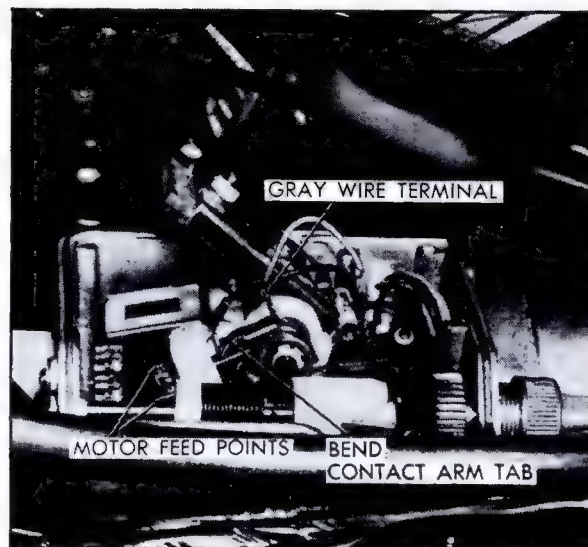

Fig. 15-15 Motor Feed Points Adjustment (Magnet to Locking Arm Gap)
9. If contact arm does not move freely, bend tab, Fig. 15-15, to adjust. Bending the curved tab up will decrease tension holding contact arm toward bottom motor feed point (wide open throttle point); bending it down will decrease tension holding contact arm toward upper motor feed point (close throttle point).